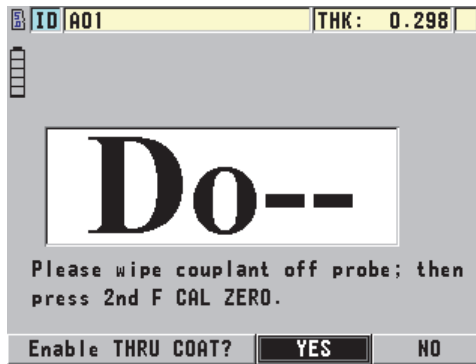

Figure 6-6 Opening the THRU-COAT setup dialog box
4. Press **[2nd F]**, **[CAL ZERO]** (**Do ZERO**) (see Figure 6-6 on page 87).